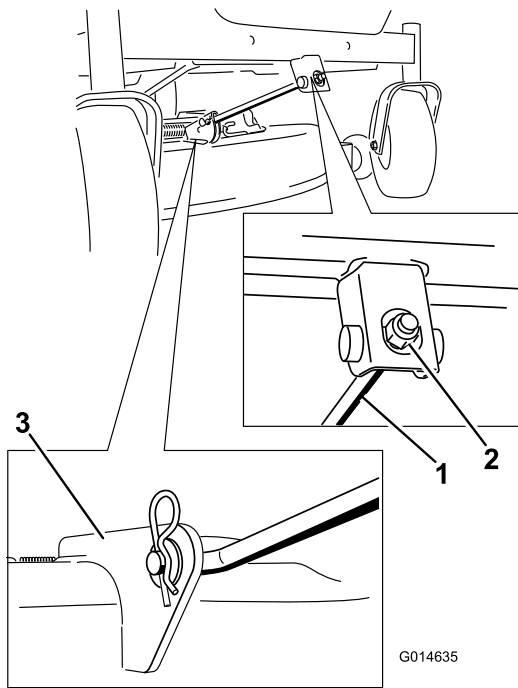

Figure 53
4. Remove the hairpin cotter from the front support rod and remove the rod from the deck bracket (Figure 53). Carefully lower the front of the mower deck to the ground.
- Attach the front support rod to the mower deck with the clevis pin and hairpin cotter (Figure 53).